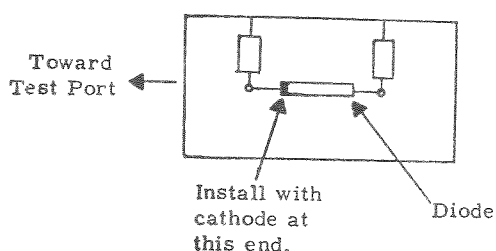

Figure 4-11. Diode Installation in SWR Autotester
- d. Install the new diode with its cathode positioned as shown in Figure 4-11.